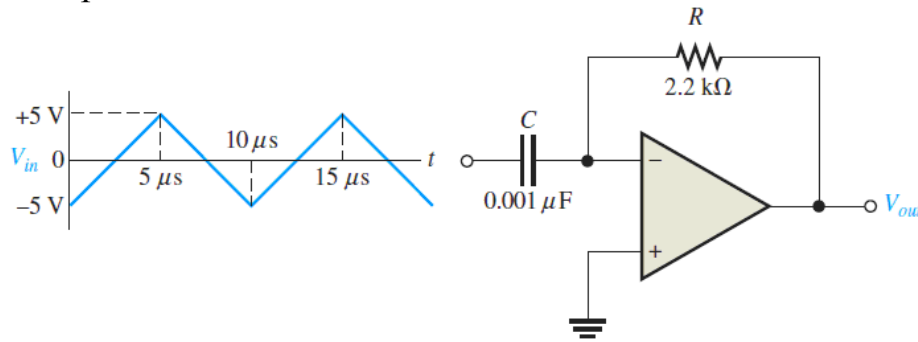

Fig.46
**Example:** Determine the output voltage of the ideal op-amp differentiator in Fig.46 for the triangular-wave input shown.